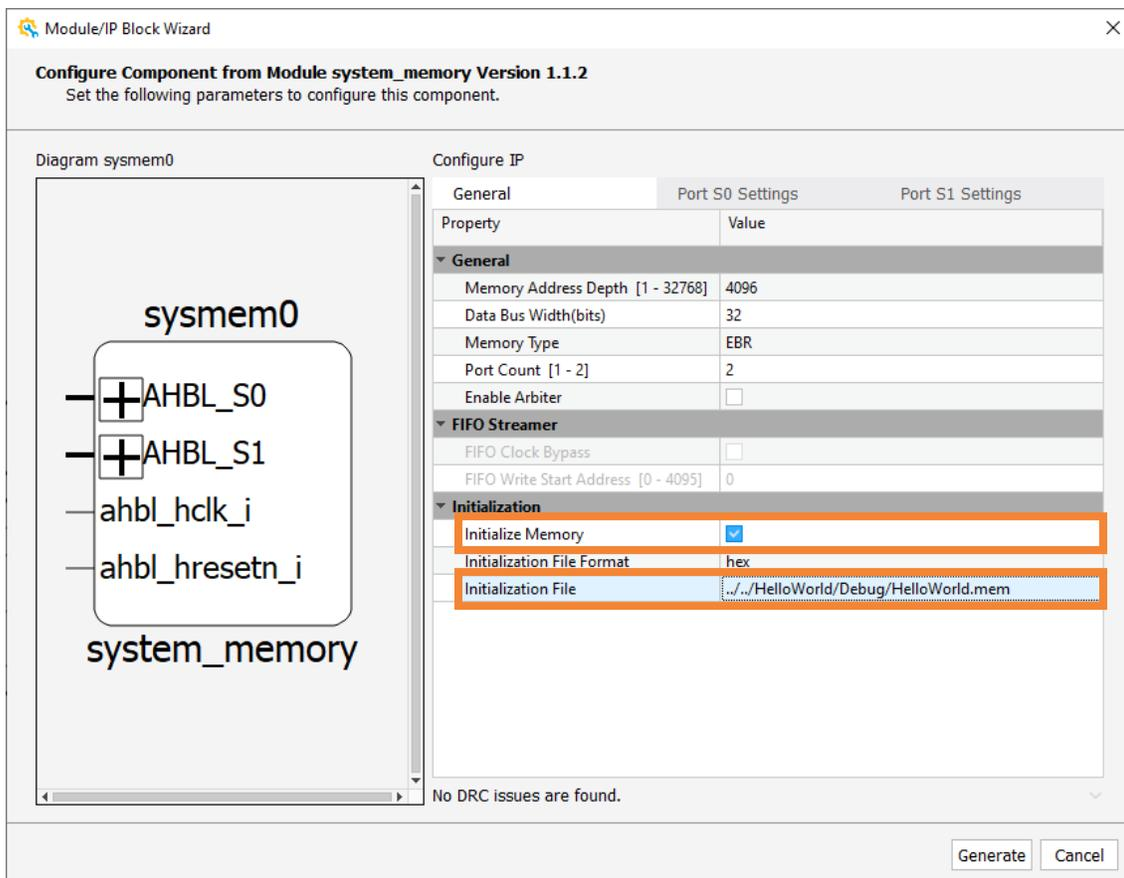

Figure 4.5. Configure Module System Memory
- (Optional) In Propel Builder, update the SoC design to set the preloaded software. Enable the checkbox for **Initialize Memory** for *system_memory* IP module from the **Initialization** area of the **General** tab, and set **Initialization File** (Figure 4.5) generated from the corresponding Hello World C project in the Creating Hello World C Project section.